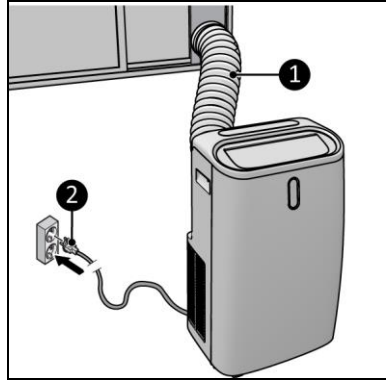

Figure 13
- Place the power plug (Figure 13, pos. 2) into an earthed wall socket that is easily accessible. Use an earthed wall socket with a minimum power of 1800 Watt.
1. Make sure the device is switched off and the plug is removed from the power outlet (Figure 13, pos. 2).